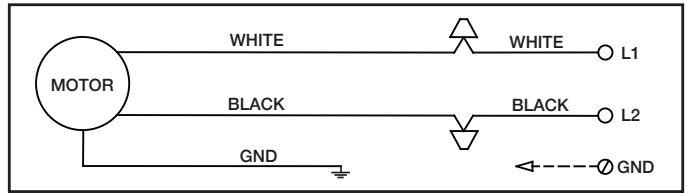

Figure 5
12. Slide the upper canopy (B) up the rod to within 1/4" of the ceiling or beam and securely tighten the set screw (F).
13. If a remote speed control or reverse switch is to be used refer to the Instruction Manual included with that controller for proper installation and wiring. Refer to Figures 5 and 6 for proper installation and wiring.